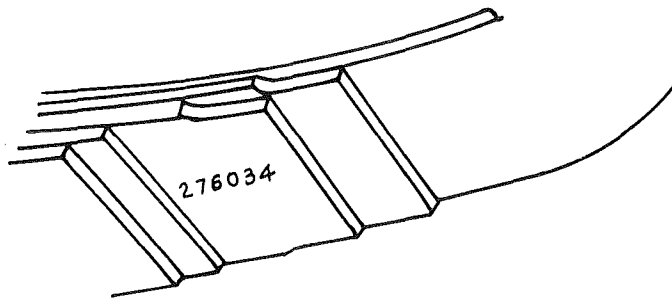

FIG 1 – LOCATION OF SPRING PART NUMBER
- a. Check the part numbers to ensure that the correct springs are fitted. The part number is stencilled on the top face and stamped on the under face of one of the leaves as shown in Fig 1. (Springs that are within tolerance are not to be changed).